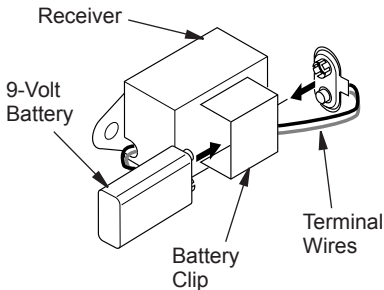

Figure 36 - Installing Battery in Receiver
3. Install battery into receiver battery clip and connect to terminals (see Figure 36).